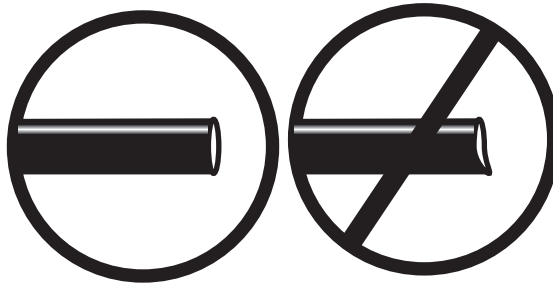

fig. 15
- a. Check the air line connection by deflating the spring and removing the line by pulling the collar against the fitting and pulling firmly on the air line. Trim 1" off the end of the air line. Be sure the cut is clean and square (see fig. 15). Reinsert the air line into the push-to-connect fitting.